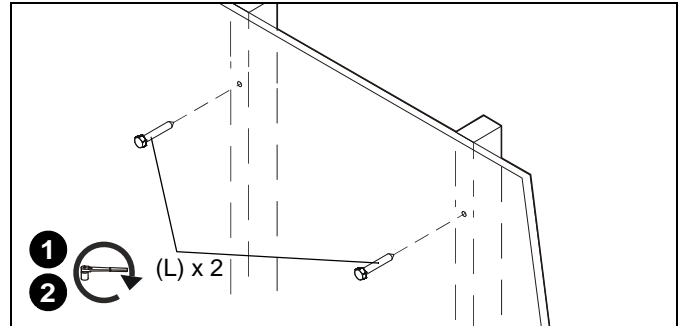

Figure 23
1. Use one 5/16" x 2-1/2" lag bolt (L) through product and into pilot hole. (See Figure 23)